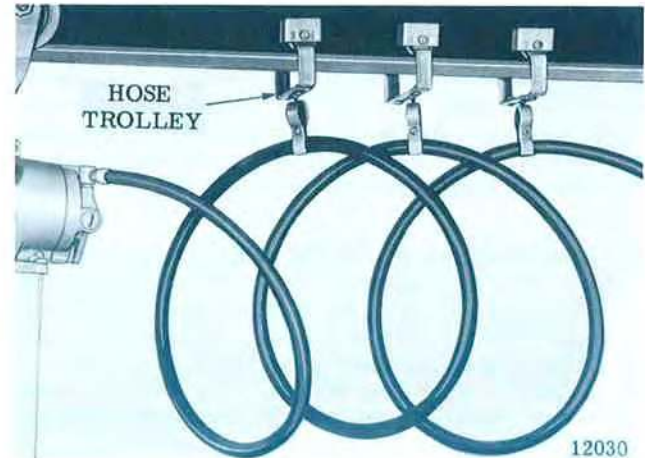

Figure 2-2. Air Hoist Supported by YALE Hose Trolleys.
b. If hoist is suspended by trolley, provide sufficient hose to reach from air source to farthest point of trolley travel. YALE Hose Trolleys are recommended to keep hose up out of the way (see Figure 2-2).